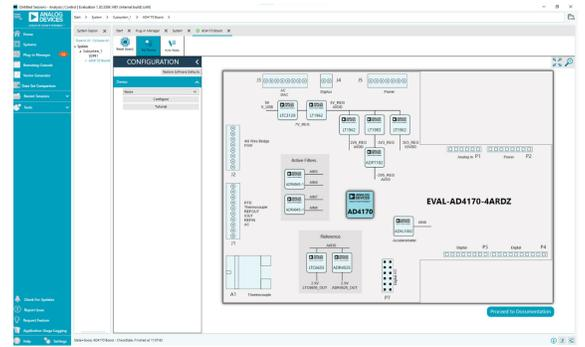

Figure 20. AD4170-4 Evaluation Board View
4. Double click the **AD4170** chip icon in the **AD4170 Eval Board** view window to open the **AD4170** chip view window shown in Figure 20.